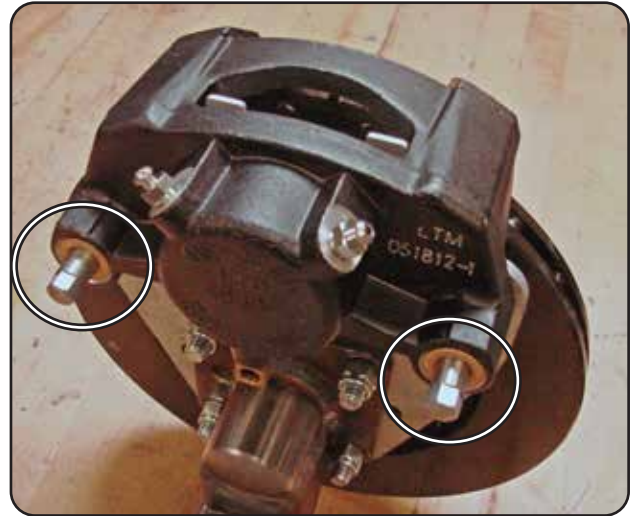

Fig. 1
3. Remove the caliper by unscrewing the slider pins from the mounting bracket (Fig.1). Use a 7/16" socket drive or wrench to remove pins. Be careful to hold caliper in place so that it does not fall and pull on or damage the brake line. Once pins are removed, disconnect brake line and remove caliper from the rotor.